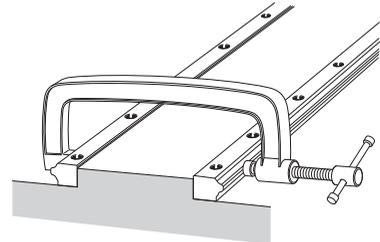

Fig.18
(2) Use a small vice to press the two LM rails to the base so that they closely contact the reference surface, then tighten the mounting bolts to the recommended torque (see **■**1-332). (Fig.18)